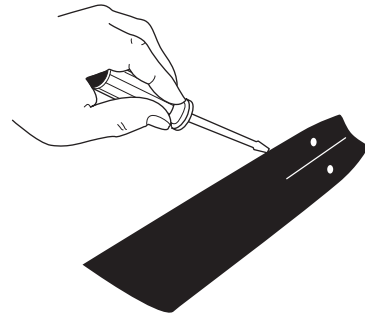
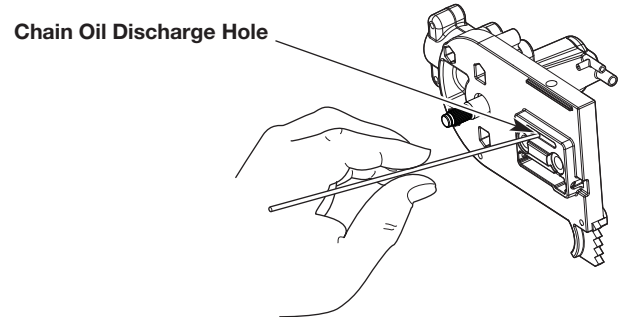

Fig. 16
Fig. 17
2. Clean the guide bar groove and oil passages whenever the saw chain is removed, when the unit has been used heavily or when the saw chain appears dirty. Use a screwdriver, putty knife, wire brush or similar instrument to remove debris from the guide bar groove (Fig. 16). Use a soft wire that is small enough to insert into the chain oil discharge hole to remove any debris from the hole (Fig. 17).